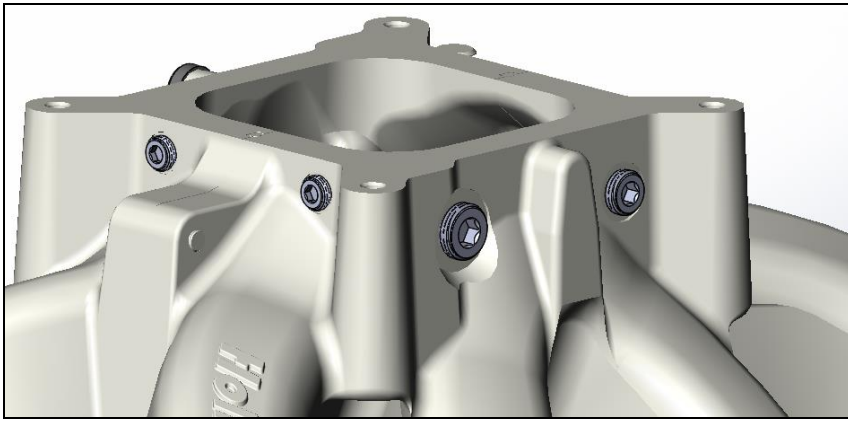

Figure 1
There are (2) 1/8", (1) 1/4", and (1) 3/8", NPT ports below the carb flange on the manifold for a vacuum source (**Figure 1**). These ports are connected to the plenum of the manifold and can be used for power brakes, vacuum reservoir, etc. The carburetor or throttle body may also provide vacuum sources and ports for plumbing a PCV (Positive Crankcase Ventilation). It is preferable to use the ports below the manifold carb flange as a vacuum supply, not for PCV. It is best to route PCV to the proper port on the carburetor or throttle body to ensure proper distribution of the crankcase oil vapor into the intake manifold. Confirm that all unused vacuum ports on the intake manifold and the carburetor or throttle body are plugged or capped. NPT plugs for the manifold have been provided for this purpose.